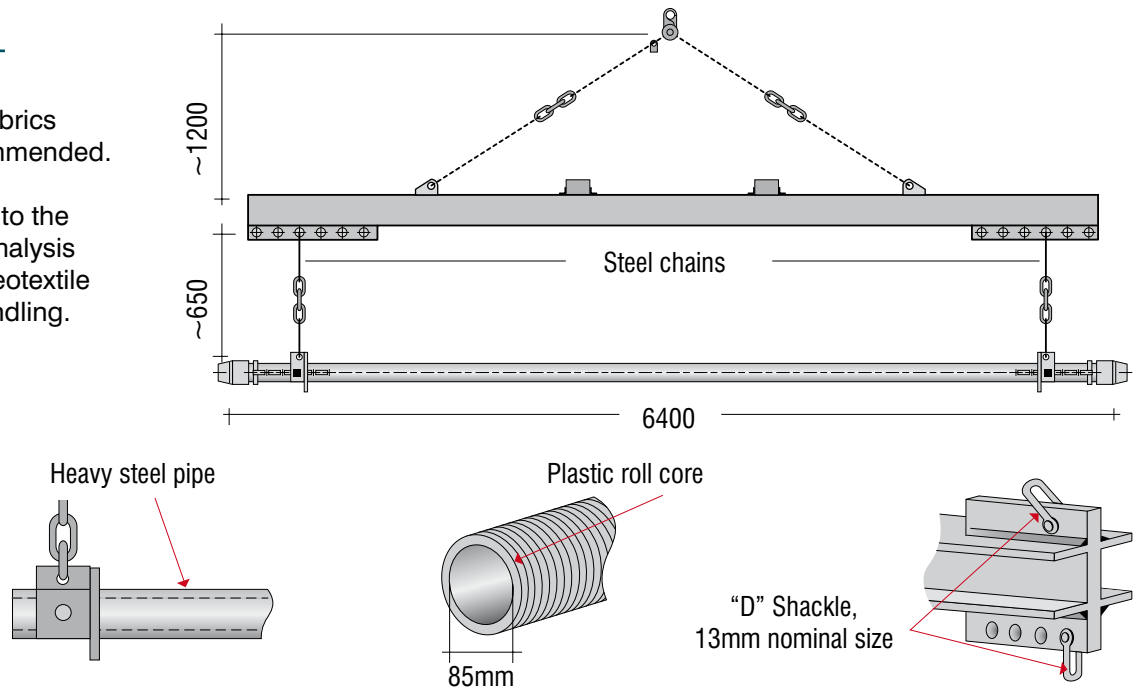

Figure 4. Spreader Bar
- Installation of 6 metre wide rolls over difficult terrain can be assisted with a Geofabrics spreader bar (refer to Figure 4 and the safe handling guidelines for details on safe usage).
Performance considerations such as removal of wrinkles and folds or pre-tensioning the geotextile should be addressed as specified. Seams should be exposed with the seamed joint facing upwards, such that the seam can be inspected and repairs easily made should faults be encountered. For placement of larger 4m and 6m rolls, a Geofabrics spreader bar is recommended. (Refer to figure 4 and the Safe Handling Risk Analysis).
Stability of the geotextile on slopes should be assessed by the design engineer. Installation of rolls on slopes with a Geofabrics spreader bar is recommended. (Refer to figure 4 and the Safe Handling Risk Analysis).
Refer to Figure 4 and to the Safe Handling Risk Analysis below for details of geotextile spreader bar safe handling.